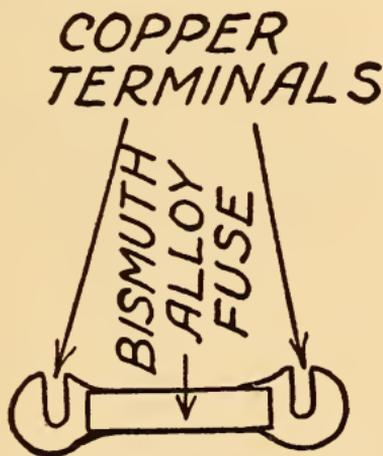

FIG. 37. A STANDARD FUSE LINK
*Its Uses.*—Its chief use is in making alloys having a low melting point. An electric fuse link made of a bismuth alloy is shown in Fig. 37.